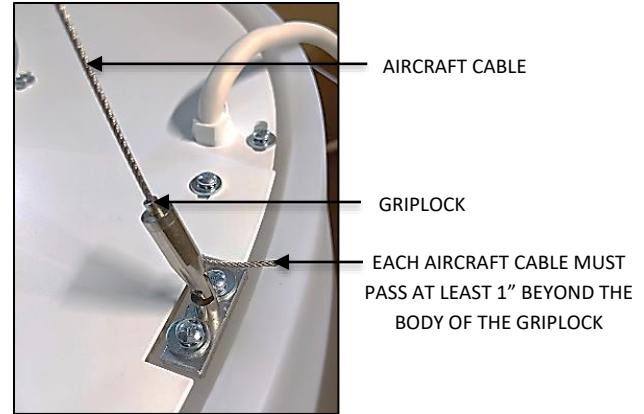

FIG. 12 – AIRCRAFT CABLE INSTALLATION
6. To feed AIRCRAFT CABLE into the GRIPLOCK, press the plunger of the GRIPLOCK and insert the AIRCRAFT CABLE into the body of the GRIPLOCK as shown in FIG. 12.